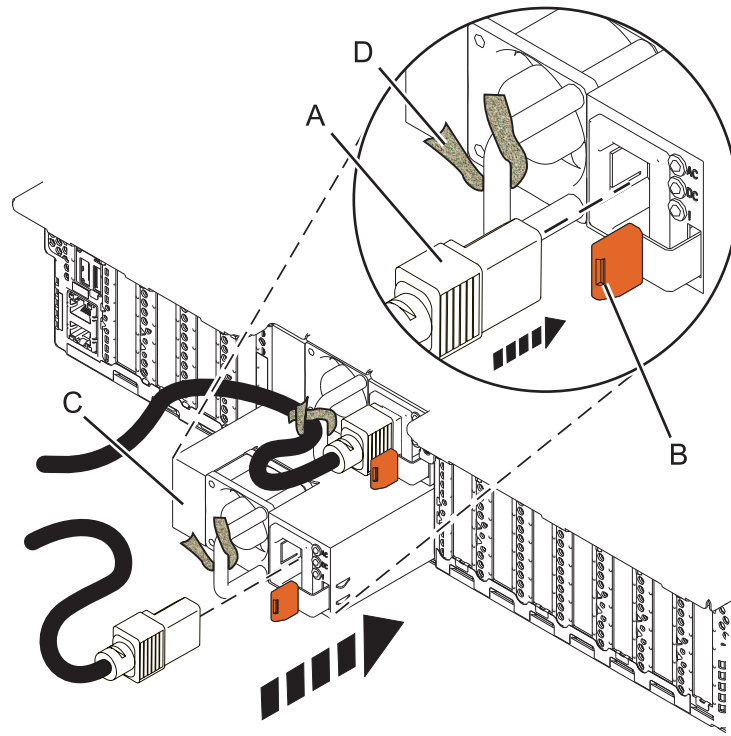

Figure 5. Replacing a power supply in the system
3. Align the power supply (C) with the bay and slide the power supply into the system until the terracotta latch (B) locks in place, as shown in Figure 5 on page 7.
4. Connect the power cord (A) to the power supply (C), as shown in Figure 5.
5. Use the hook-and-loop fastener (D) and tie the power cord to the power supply handle, as shown in Figure 5.